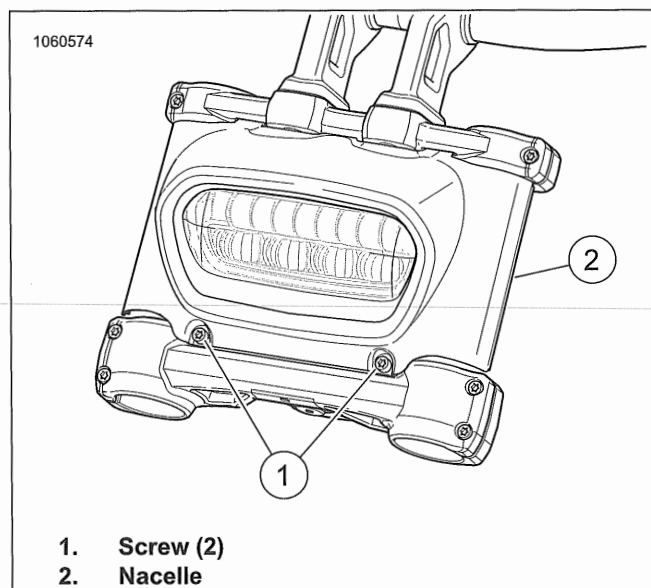
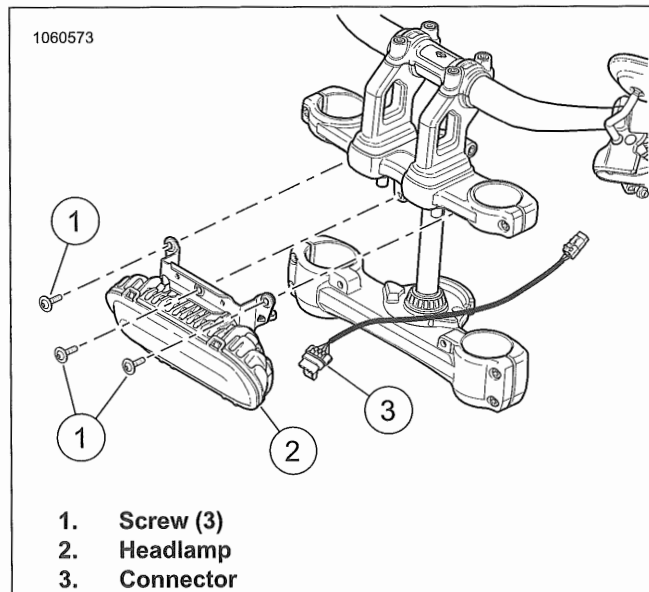

Figure 7-50. Headlamp Nacelle
Figure 7-51. Headlamp
1. See Figure 7-50. Remove screws (1).
2. Remove nacelle (2).
3. See Figure 7-51. Remove screws (1).
4. Disconnect connector (3).
5. Remove headlamp (2).
1. See Figure 7-51. Install headlamp (2).
2. Connect connector (3).
3. Install screws (1). Tighten.
4. See Figure 7-50. Install nacelle (2).
5. Install screws (1). Tighten.